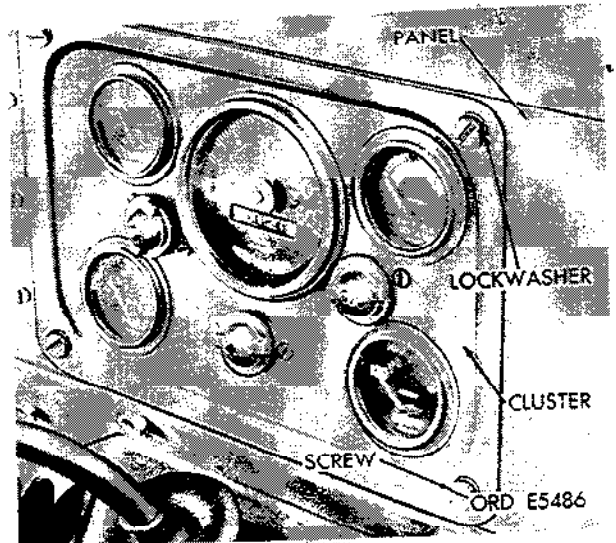
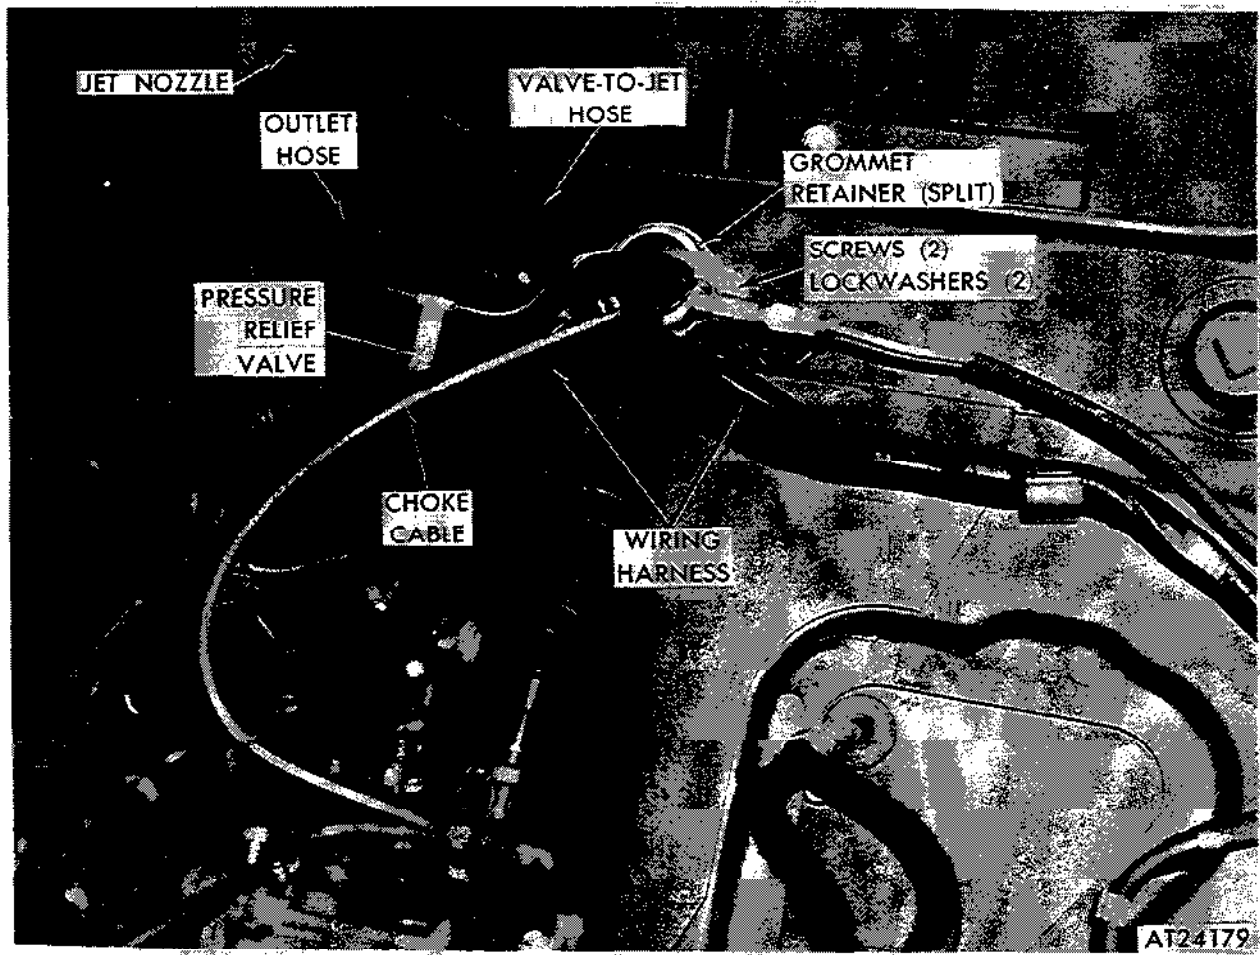

Figure 2-233. Instrument cluster removal.
Figure 2-248. Removing or installing grommet and its retainer to firewall on M151A2, M825, and M718A1 vehicles.
(19) Remove four screws and lockwashers securing instrument cluster to dash panel and pull instrument cluster away from panel (fig. 2-233).
(15) Remove two screws and lockwashers securing grommet retainer. Remove retainer (fig. 2-248).
(16) Pull rubber grommet away from firewall, and push choke cable and its housing through firewall.
(17) Remove four screws and lockwashers securing instrument cluster assembly to dash panel (fig. 2-233).